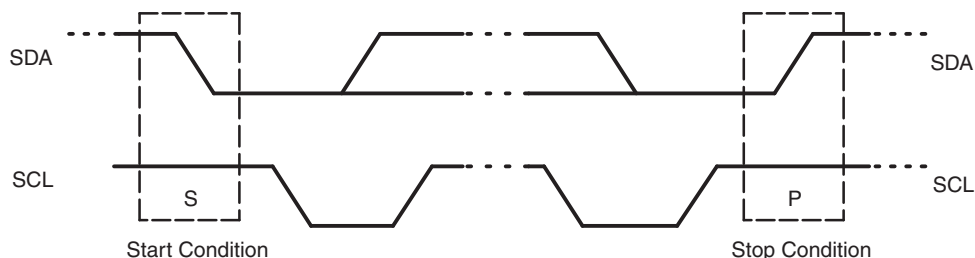

Figure 11. Start and Stop Conditions
Both data and clock lines remain high when the bus is not busy. A high-to-low transition of the data line while the clock is high is defined as the Start condition (S). A low-to-high transition of the data line while the clock is high is defined as the Stop condition (P) (see Figure 11).